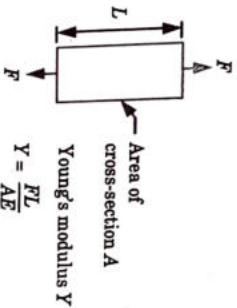

Fig. 4.16.1. Axially loaded member
3. Consider an axially loaded elastic element as shown in Fig. 4.16.1, under the action of force F , it undergoes deflection of FL/AE .